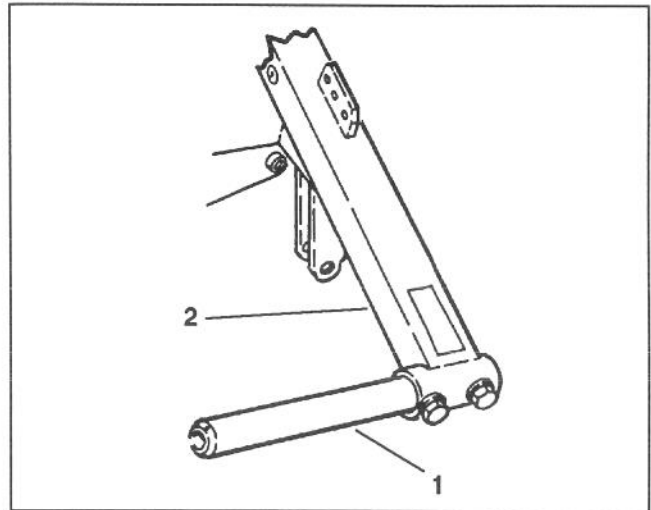

**Figure 5**
**Note:** For operators that are lightweight, (less than 150 pounds) and short in stature (less than 5'4" tall), an optional weight kit (Toro part no. 80-4210) for seat model 30796 is available from your Authorized Toro Distributor. Mount weight to top of seat plate with (2) capscrews and flange nuts as shown in Figure 5. When using weight, seat slide adjusters should be mounted in the forward set of holes provided in seat plate to insure seat can be positioned forward enough to provide comfortable operation and control of the mower.